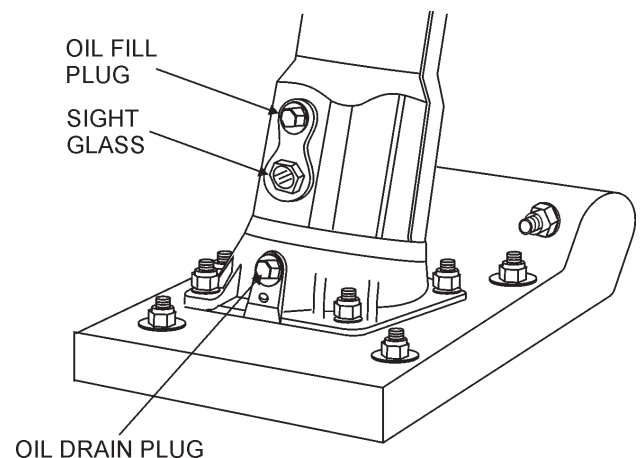

Figure 13. Oil Drain Plug
- Drain oil reservoir on foot housing (Figure 13). Refill with approximately 1.7 pt. (800cc) of 10W-30 motor oil. Oil should be midway in sight glass. Break in oil should be changed after first 50 hours.